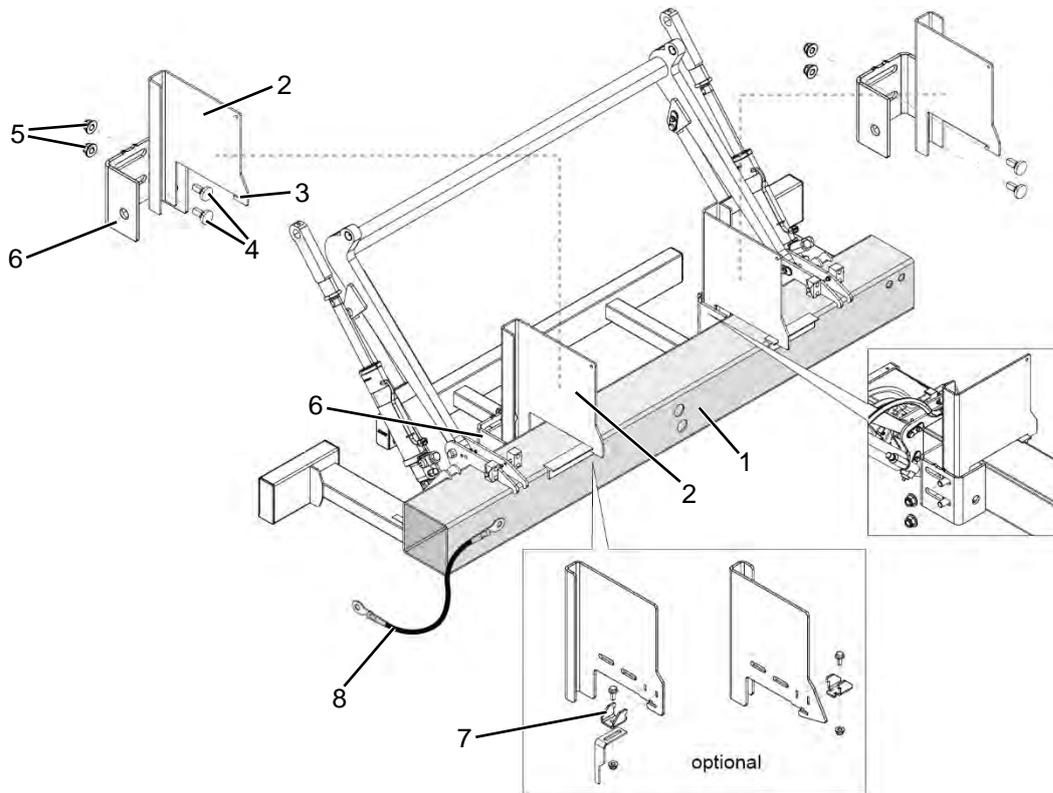

Figure 10: Pre-assembly with laterally adjustable bolted consoles
- Optional (when using a ball head coupling and with the C 3000 S): Connect the locking clamps (7) to the console plate (2) (see Figure 10).